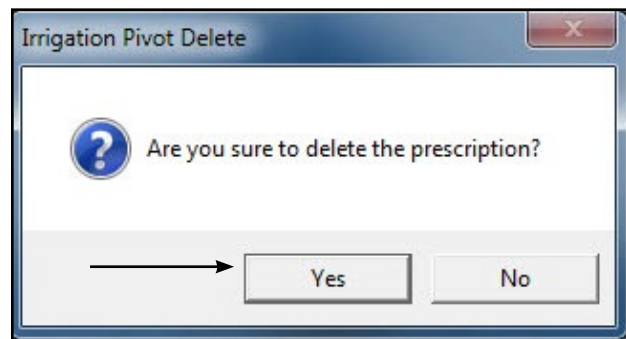

Figure 38-2 Delete Decision Pop-up
3. Click **Yes**. See Figure 38-2.